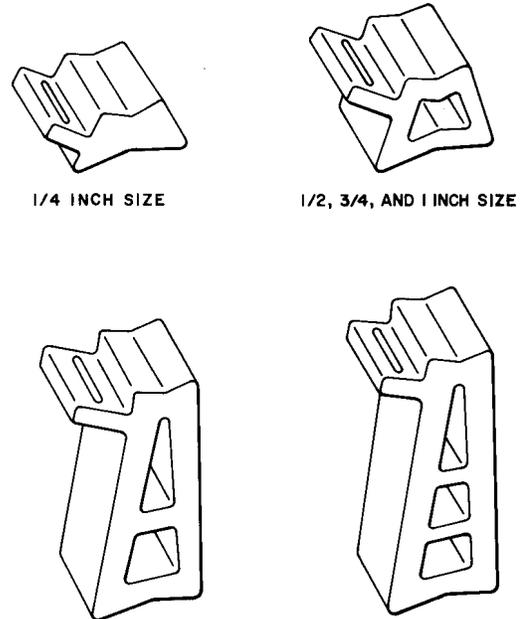

Fig. 4—D Cable Spacers
2.05 The D cable spacer (Fig. 4) is made of black polyethylene and is used with lashed cable supports to maintain the desired separation between strand and cable. D cable spacers are available in 1/4-inch increments from 1/4- through 3-1/4 inch sizes.